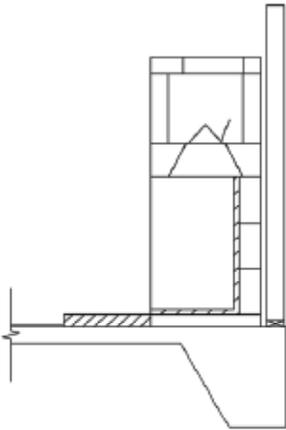

FIGURE 43
1. Slab on grade: standard residential, minimum four inch (4") thick, 2500 psi concrete foundations on properly compacted fill. This type foundation can support Isokern installations up to thirty feet (30') overall height (brickledge installations not included). (Figure 43)